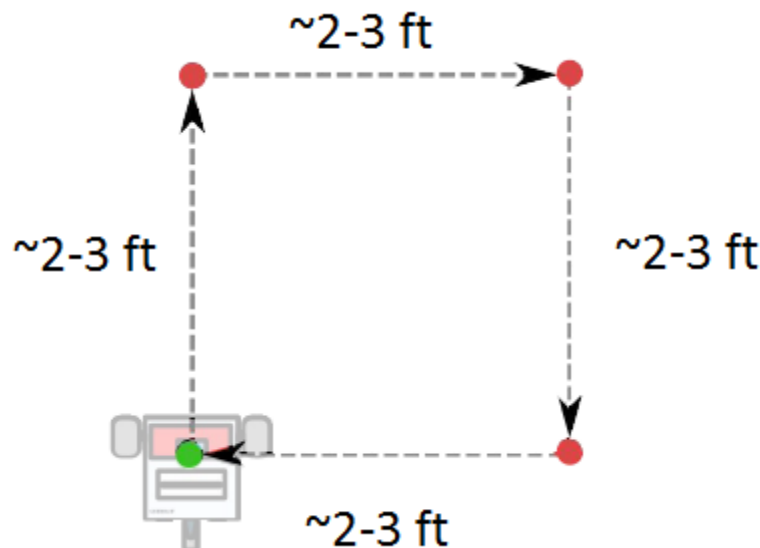

Figure 2: Square Robot Motion
1. Write a program to move the robot in a square path with sides between 2 and 3 feet (see Figure 2).